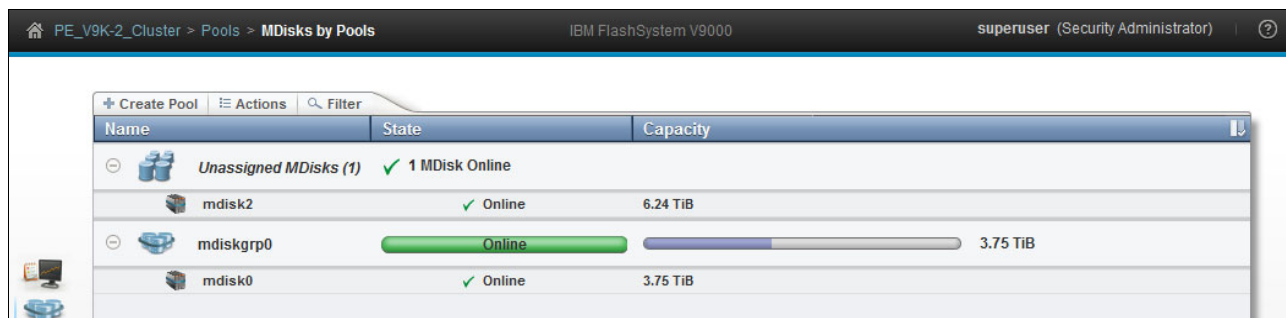

Figure 8-59 MDisks by Pools shows one unassigned MDisk
- To add the newly created MDisk to an existing storage pool, select **Pools** → **MDisks by Pools**. The Pools > MDisks by Pools view is displayed (Figure 8-59).